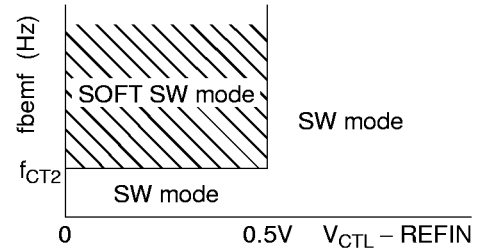

Figure 3
5. The circuit operates in soft switching drive mode only when the control input (V_ctl) is lower than f_{CT2} and f_{PHASE} is higher than the threshold voltage. See figure 3.